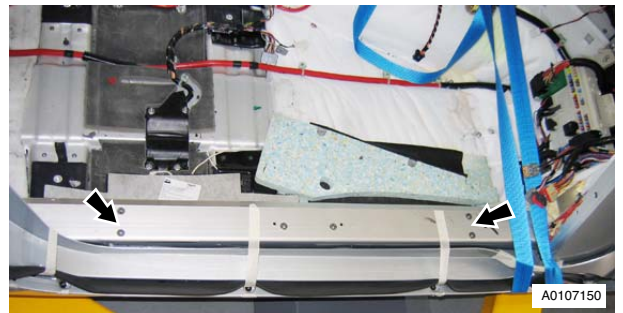

Figure 4
9. Remove screws (x4) from sill top (see Figure 4).